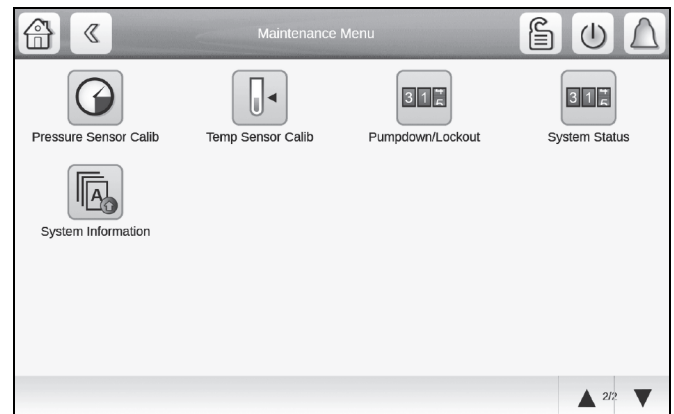

Fig. 42 — Pressure Sensor Calib Screen, Page 1
1. Go to **Main Menu** → **Maintenance Menu** → **Pressure Sensor Calib**. See Fig. 42 and 43.
- Go to **Main Menu → Maintenance Menu → Temp Sensor Calib**. See Fig. 42.